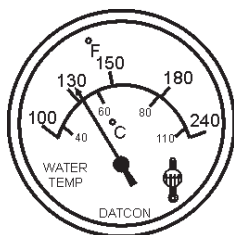

Figure 51. Coolant Temperature Gauge
16. The **coolant temperature gauge** (Figure 51) will indicate the coolant temperature. Under normal operating conditions the coolant temperature should be between 180°~230°F (82°~110°C) (**Green Zone**).